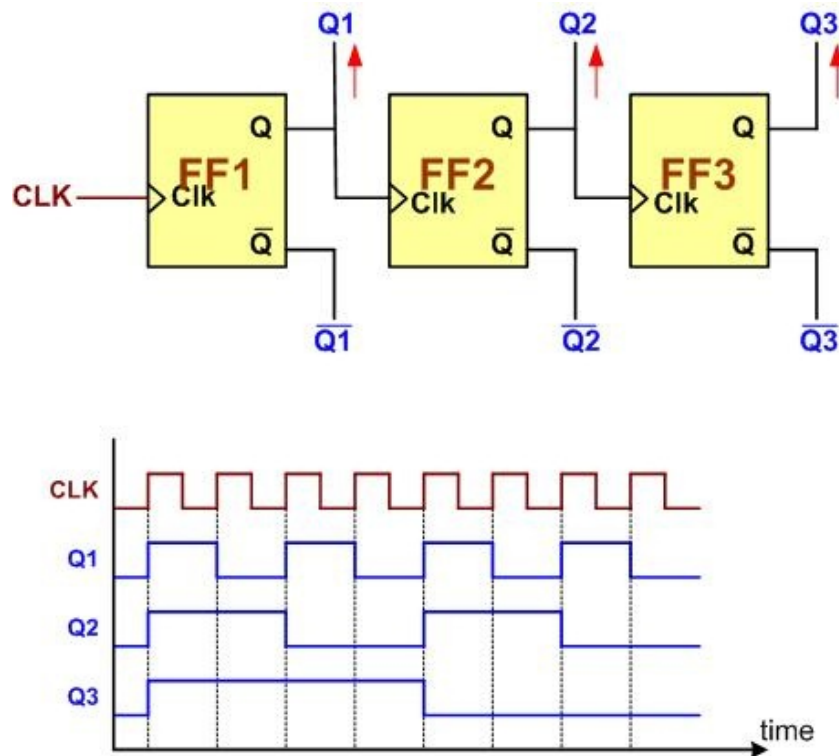

Figure 5-1: A 3-bit Counter
In the digital design course you connected many flip flops (FFs) together to create up counter/down counter. For example, connecting 3 FFs together we can count up to 7 (000-111 in binary). This is called *3-bit counter*. The same way, to create a 4-bit counter (counting up to 15, or 0000-1111 in binary) we need 4 FFs. For 16-bit counter, we need 16 FFs and it counts up to $2^{16} - 1$. Figure 5-1 shows the T flip flop connection and pulse outputs for all three flip flops.
Regarding Figure 5-1, notice the following points:
- 4) We can use the circuit in Figure 5-1 to divide clock frequency.
- 5) We can use the circuit in Figure 5-1 to count the number of pulses fed to CLK pin of FF1.